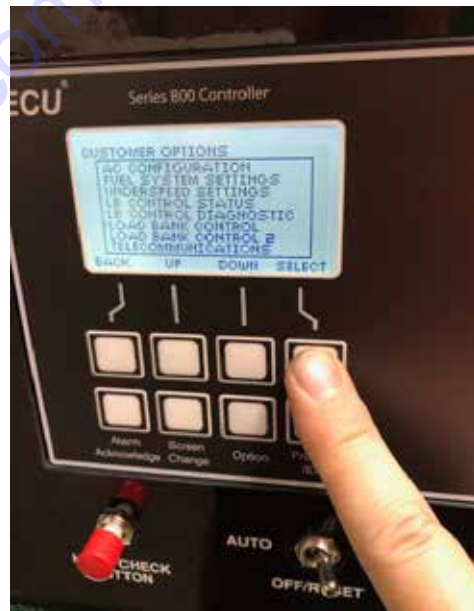

Figure 25. Load Bank Control (Select)
4. Scroll down the list and select **LOAD BANK CONTROL** (Figure 25).
5. Press the **SELECT** button (Figure 25).